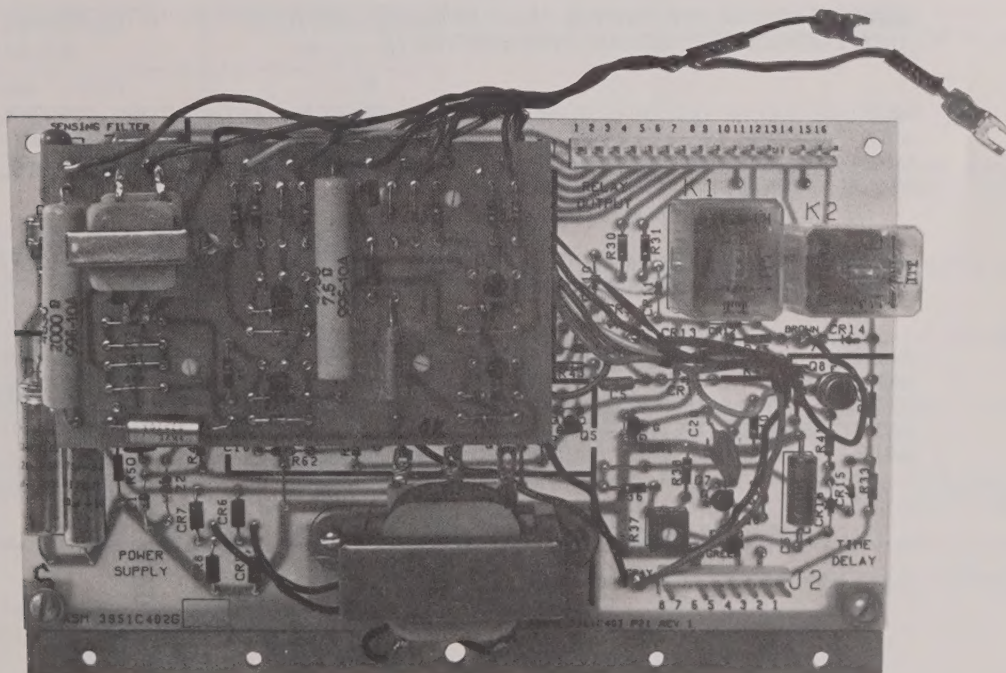
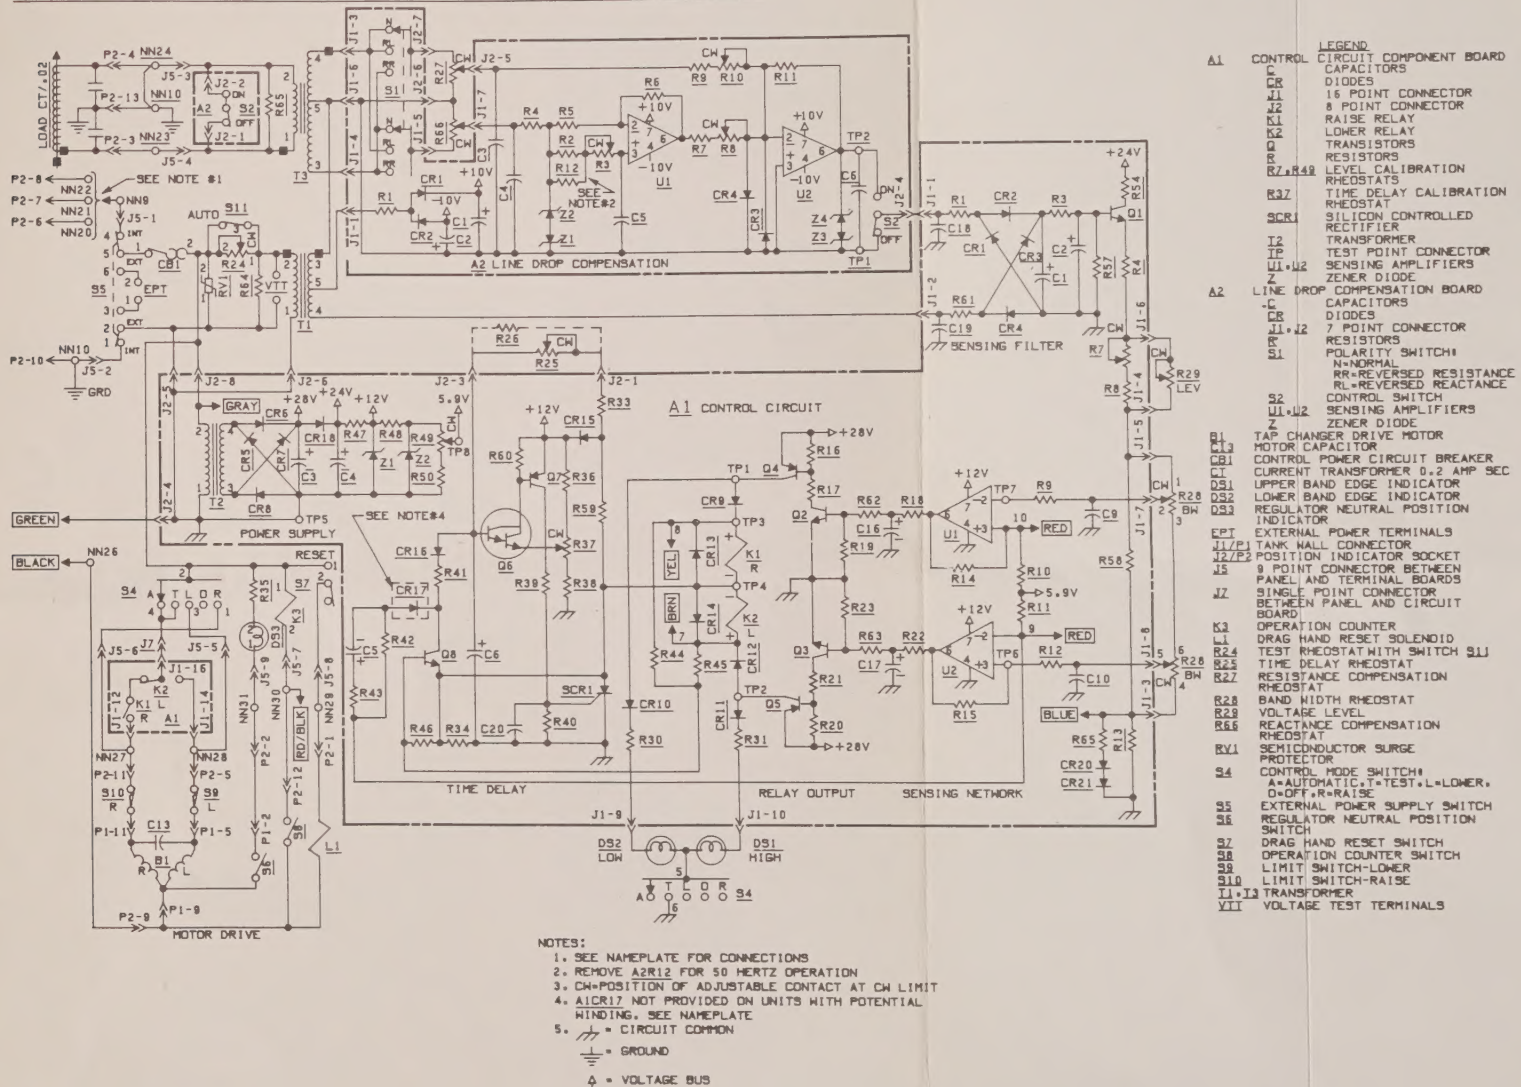

Fig. 1. Universal exchange component board (Shown without adapter harness that is normally supplied)
Fig. 7. Universal exchange board main component board schematic circuit (Solid state type line-drop compensation)
There are several Automatic Static Control component boards manufactured for Type VR-1™, ML 32, and TMLT 32 step voltage regulators. When a replacement board is needed, the Universal Exchange component board (Fig. 1) is used. This board is 5½ inch × 8½ inch in size and
Fig. 2. Universal exchange board — main component board layout (Refer to Fig. 7 or 8 legend for device nomenclature) (supplemental component board location is shown in Fig. 1)
*Common of Main Component Board. See Figs. 7 and 8.